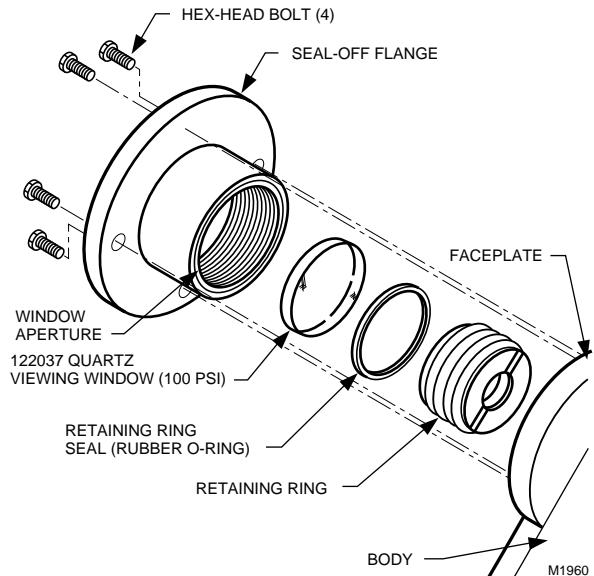

Fig. 23. Replacing quartz viewing window on C7012C,F.
- ④ Using the eraser end of a pencil, push out the viewing window (with its rubber mounting gaskets) from the inside of the faceplate.
- ⑤ Insert one rubber mounting gasket into the window aperture on the faceplate.
- ⑥ Insert the new quartz viewing window (or focusing lens) into the window aperture with either side toward the flame.
**C7012C or F (Fig. 23)**
- ① Open the master switch and remove the detector from the sight pipe (see appropriate section).
- ② Unscrew the four hex-head bolts holding the seal-off flange to the faceplate, and remove the flange. Put the bolts in a safe place.
- ③ Unscrew the retaining ring (with its rubber O-ring seal) from the seal-off flange.
- ④ Tip the flange and let the viewing window fall into your hand.
- ⑤ Insert either side of the new 122037 Quartz Viewing Window into the window aperture.
- ⑥ Screw the retaining ring (with its O-ring seal) into the seal-off flange and tighten securely.
- ⑦ Clean the viewing window on both sides with a clean cloth placed over the eraser end of a pencil.
- ⑧ Put the seal-off flange back into place on the faceplate, and securely tighten the four hex-head bolts.
- ⑨ Reinstall the detector on the sight pipe.